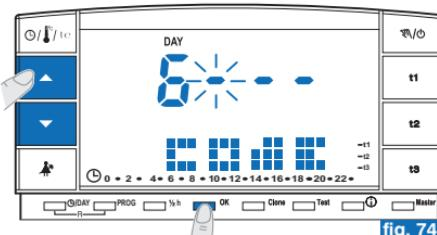
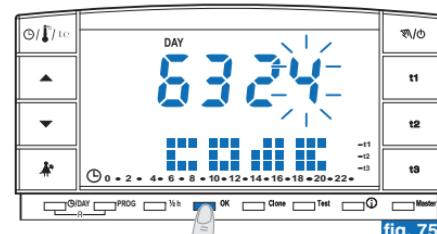

fig. 74
fig. 75
- Set the desired level with  ;  ; press **OK** to confirm (e.g. fig. 74). Follow the same procedure for the other three hyphens (e.g. fig. 75).
- Enter the current password with keys **▲▼**; press **OK** to confirm each entered value (example in fig. 75).